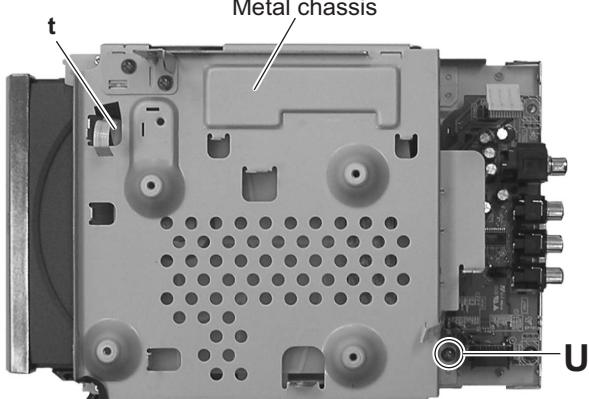

Fig.22
- (2) From the top side of the main body, remove the screw **U** and take out the metal chassis. (See Fig.22.)